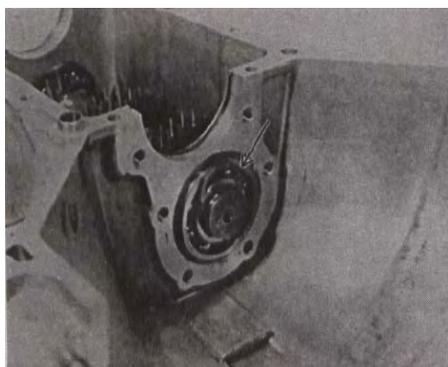

Fig 10-73
(2) Fit counter shaft front circlip into groove in shaft. (FIG.10-73)